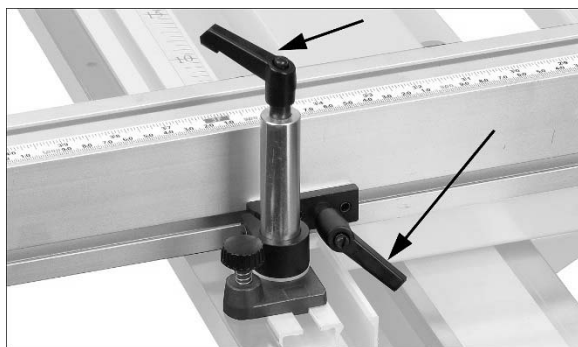

Figure 8-5
- If square is not flush, loosen both handles on angle clamp (Figure 8-5) and slide end of fence to a position where square sits flush.
4. Slide table until fence is near blade. Place a machinist square against fence and side of raised blade, as was done in Figure 8-5.